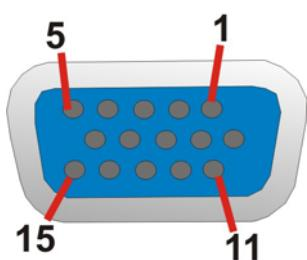

Figure 3-22: VGA Connector
**CN Pinouts:** See **Figure 3-22** an **Table 3-25**